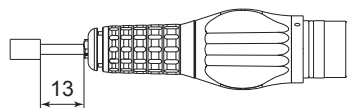

Fig. 1
- ① This Attachment is designed for hand use. Never install this Attachment or any hand tool on a machine such as a special purpose machine, NC lathe or mill.
- ② Do not touch the cutting tool while it is rotating. It is very dangerous.
- ③ Wear safety glasses, dust mask, and use a protective cover around the Spindle whenever the Spindle is rotating.
- ④ When installing a cutting tool, tighten the collet correctly and check again the collet before use. Do not over-tighten the collet. This may cause damage to the spindle.
- ⑤ Do not use grindstones with an outside diameter over  $\phi 15\text{mm}$ .
- ⑥ Do not exceed 13mm of overhang for mounted grindstones as shown in Fig. 1. If the overhang must exceed 13mm, reduce the motor speed in accordance with Table. 1.
- ⑦ Do not use bent, broken, chipped, out of round or sub-standard cutting tools as they may cause shatter or explode. The cutting tool with cracked, bended may cause some injury to operator. When using a new cutting tool, rotate it in a low speed and increase speed gradually for safety.
- ⑧ Always operate cutting tools within the cutting tool manufacturer's recommended speed limits. Use of a cutting tool higher than the manufacturer's recommended speed limits could cause damage to the spindle and injury to the operator.
- ⑨ Do not apply excessive force. This may cause tool slippage, tool damage, injury to the operator, loss of concentricity and precision.